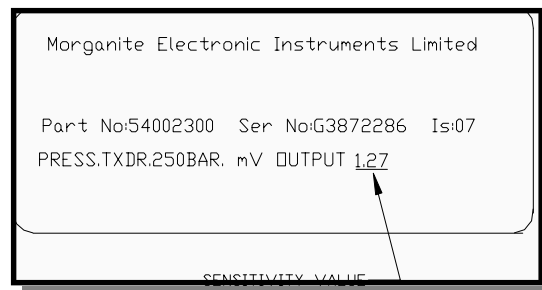

FIGURE 4.19 SENSOR SERIAL NUMBER PLATE
1. We recommend that a new sensor being installed closely matches the sensitivity of the old sensor. The sensitivity value is recorded on the serial number plate (Figure 4.19).